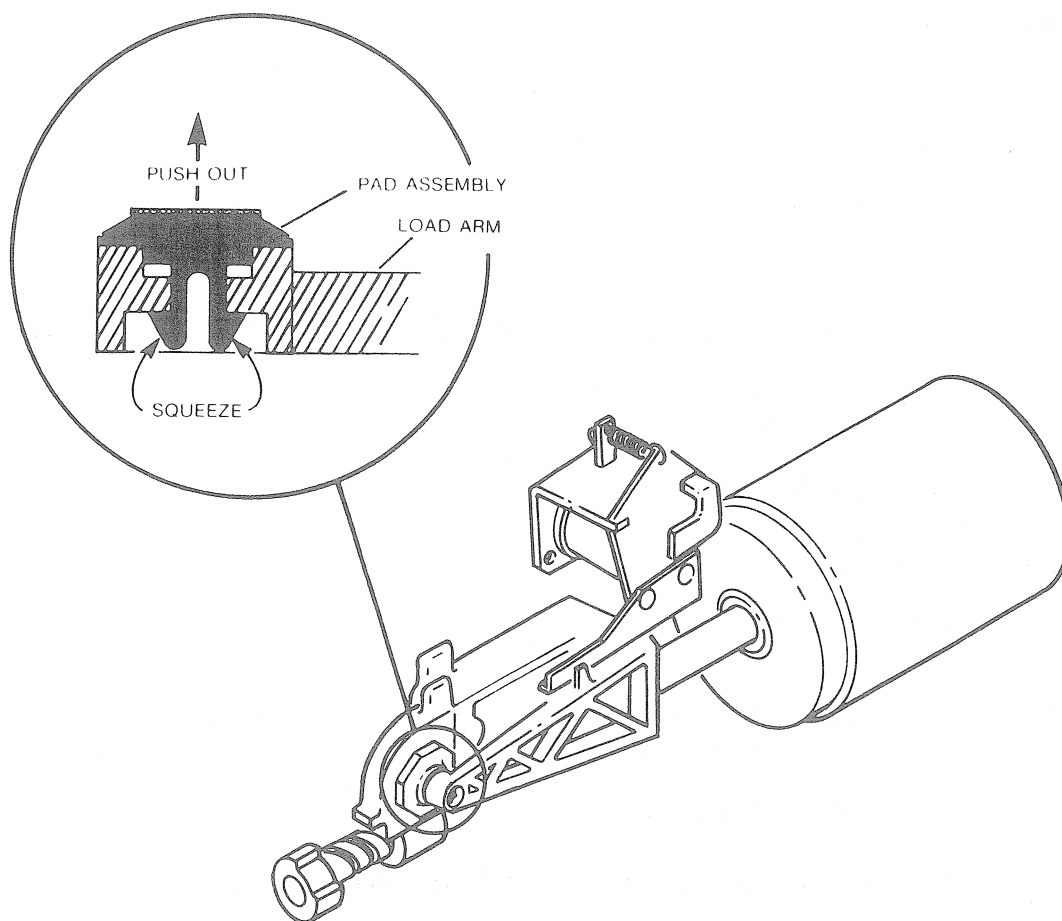

FIGURE 4-1. POP-OUT LOAD PAD REMOVAL
1. Locate pop-out pad assembly, refer to Figure 4-1. This assembly fits into the tip of the head load arm.